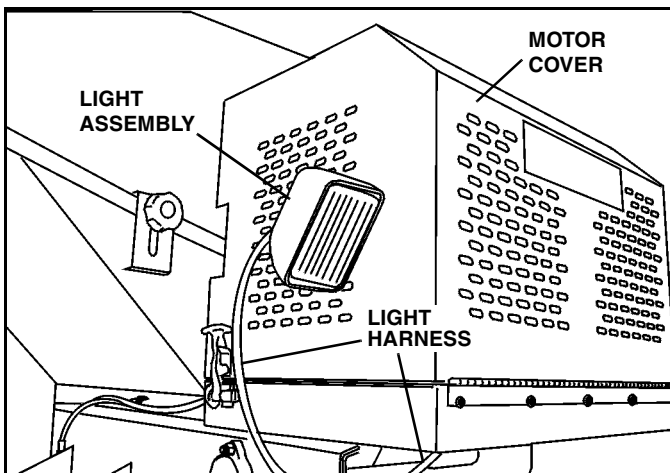

Figure 1-5
1. Mount light in one of the vent holes in the rear, left side of the motor cover. (See Figure 1-5). No drilling is required.